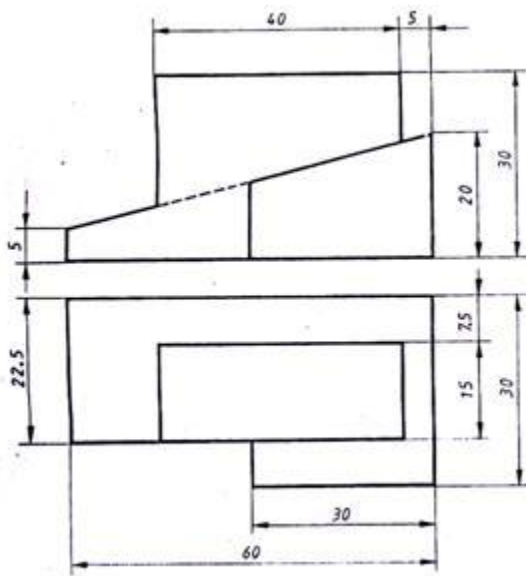

Fig.2
- Q.5** Draw the isometric projection of the object for which of the orthographic projections are shown in Fig.2.